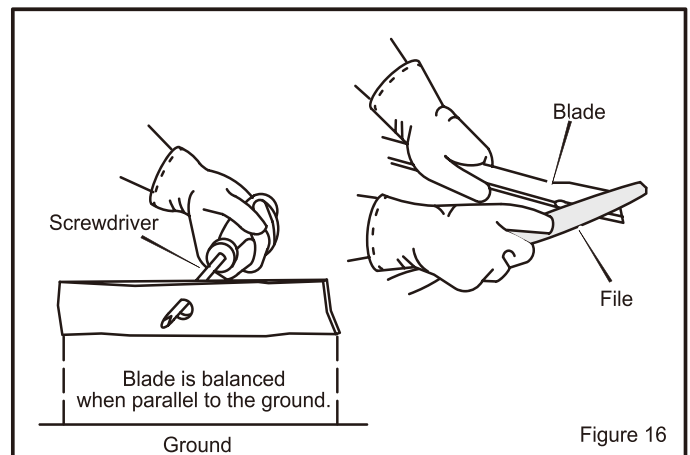

Figure 16
4. Sharpen the **blade** with a **file** (Figure 16). Make sure you keep the original bevel angle.
5. Make sure the **blade** is balanced. Use a **screwdriver** and hold the **blade** parallel to the **ground** (Figure 16). A **blade** that is balanced will stay parallel to the **ground**. If the **blade** is not balanced, the heavy end will rotate toward the **ground**. Sharpen the heavy end until the **blade** is balanced.